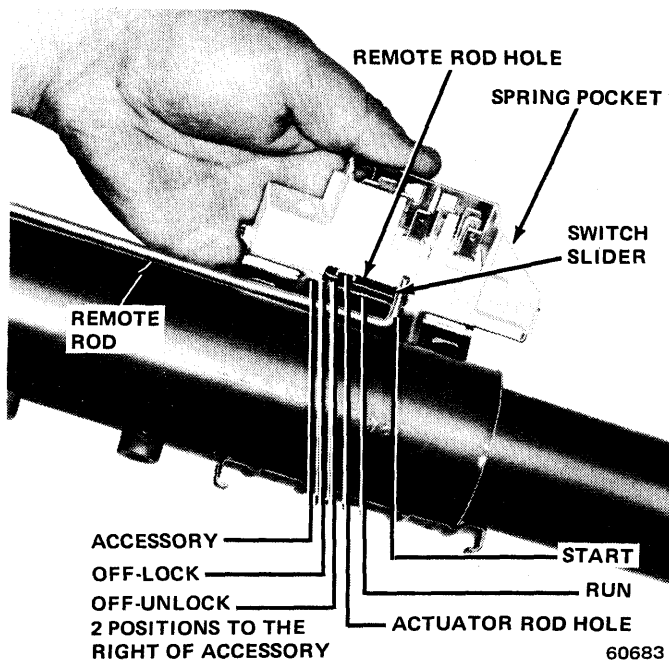

Fig. 11-33 Positioning Ignition Switch
(36) Place ignition switch in Off-Unlocked position as follows (fig. 11-33):